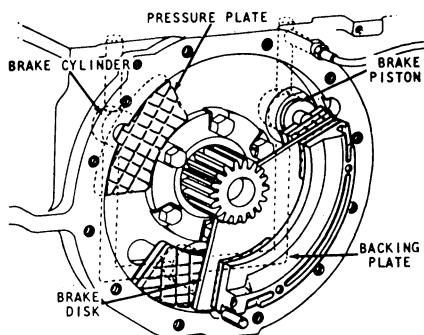
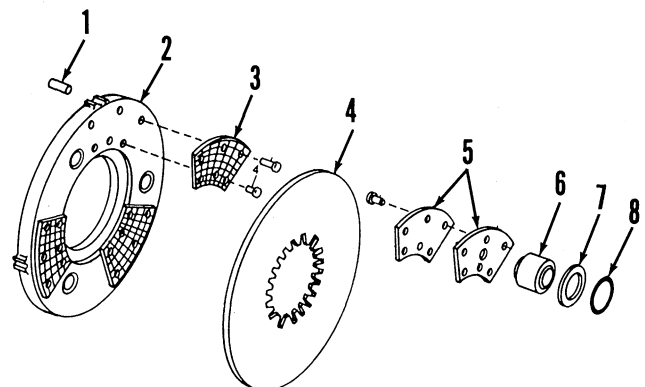

Fig. 204—Schematic view of assembled brake unit located on differential output shafts in transmission housing.
Fig. 205—Exploded view of wet type hydraulic disc brake operating parts.
184. R&R AND OVERHAUL. To remove brake discs or operating pistons, first remove the final drive units as outlined in paragraph 172. Remove the output shaft, backing plate and brake disc (Fig. 204). The three stationary brake pads are riveted to the backing plate (2—Fig. 205). The three actuating pads (5) are pressed on the operating pistons (6). The piston and pad assemblies can be withdrawn from transmission housing bores after brake disc is removed. Remove washer (7) and "O" ring (8) from piston bore.